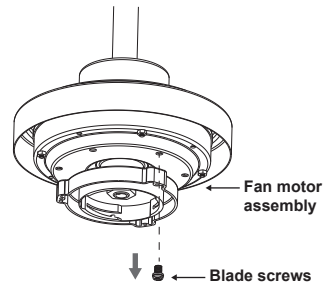

Figure 12
Step 1. Remove the six blade screws from the fan motor assembly. (Fig. 12)